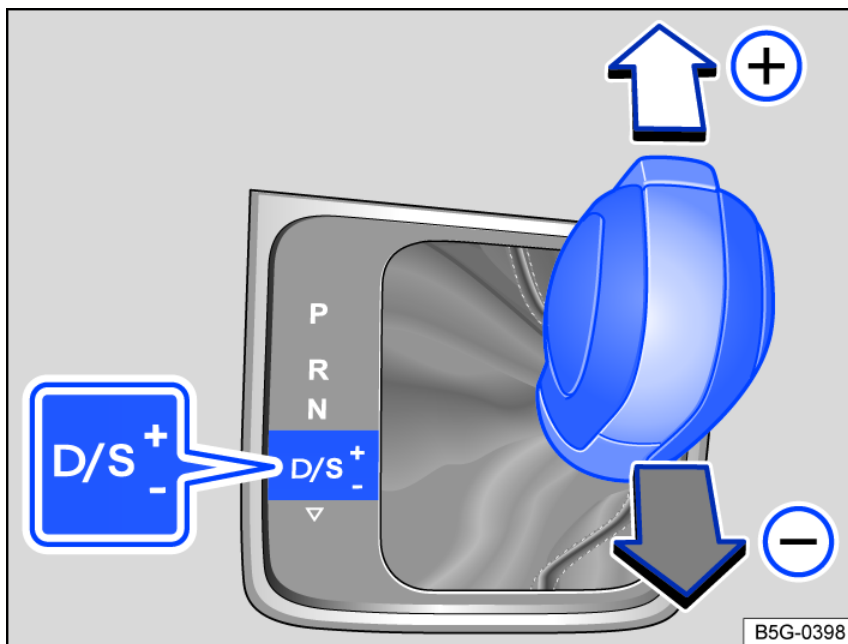

Fig. 116 Selector lever in Tiptronic position.
2. Tap the selector lever forward **+** or to the rear **-** to upshift or downshift *fig. 116*.